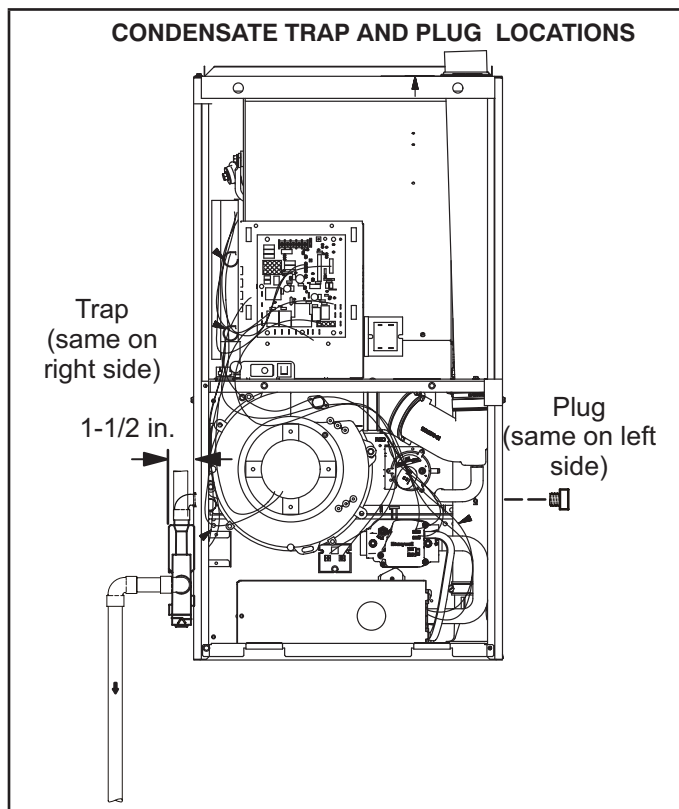
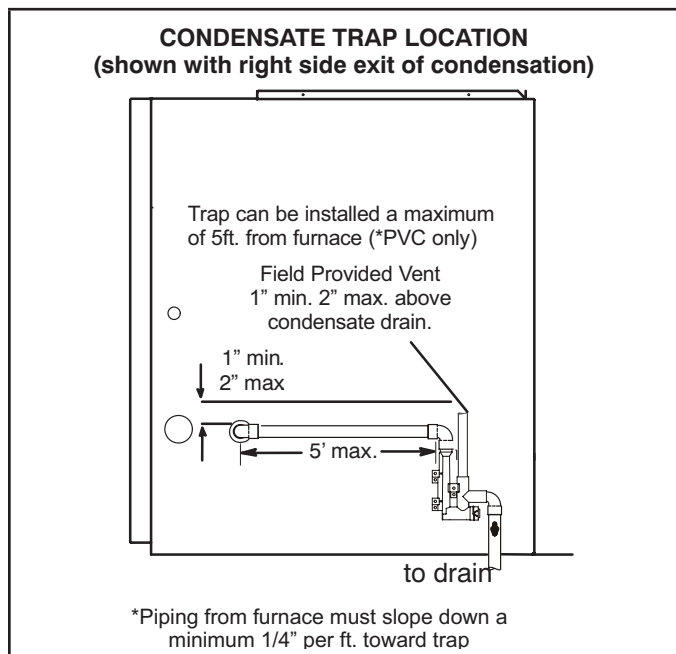

FIGURE 37
FIGURE 38
This unit is designed for either right- or left-side exit of condensate piping. Refer to FIGURE 37 and FIGURE 38 for condensate trap locations.
- 2 - Use a large flat head screw driver or a 1/2" drive socket extension and remove plug (FIGURE 37) from the cold end header box at the appropriate location on the side of the unit. Install provided 3/4 NPT street elbow fitting into cold end header box. Use Teflon tape or appropriate pipe dope